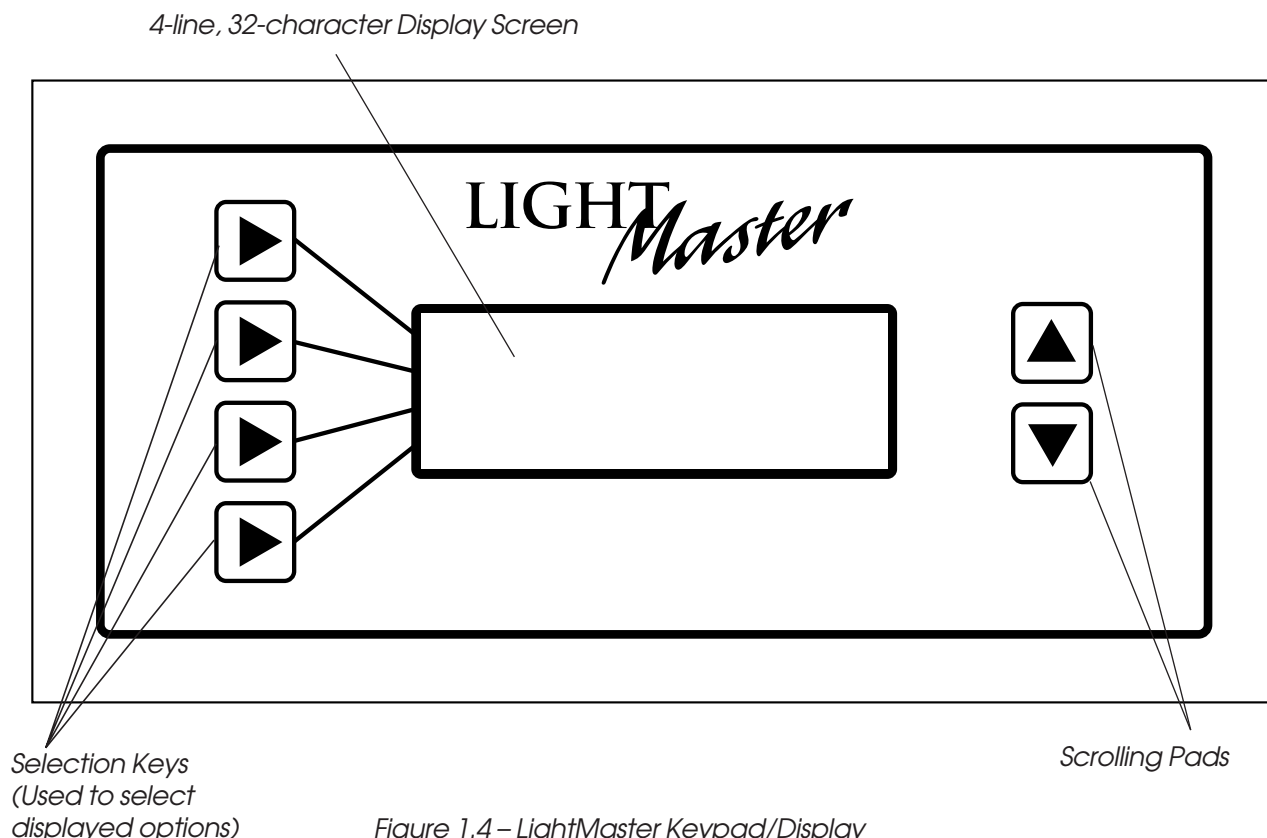

Figure 1.4 – LightMaster Keypad/Display
1.1.5 Keypad/Display Module - (See Figure 1.4.) The programming module provides you with access to program and view controller data. It consists of a tactile response keypad and screen. The programming module is mounted to the CPU board.